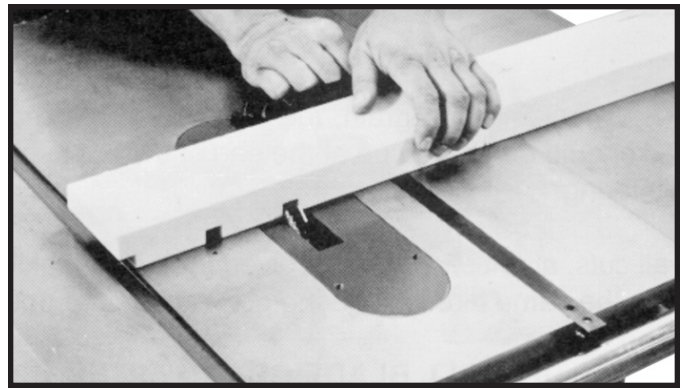

Fig. 73
3. Fig. 73, shows a typical dado operation using the miter gage as a guide.